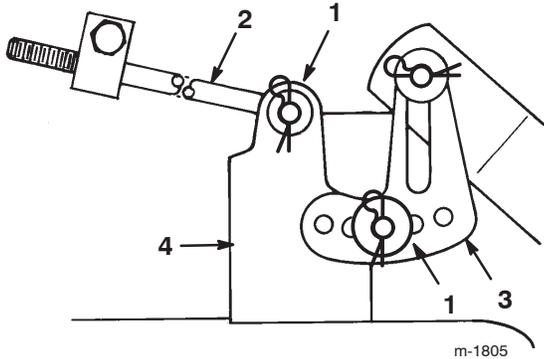

Figure 49
7. Remove the hairpin cotter and washer from the leveling bracket (Fig. 49).
8. Position the leveling bracket in a different hole and install the washer and hairpin cotter (Fig. 49).